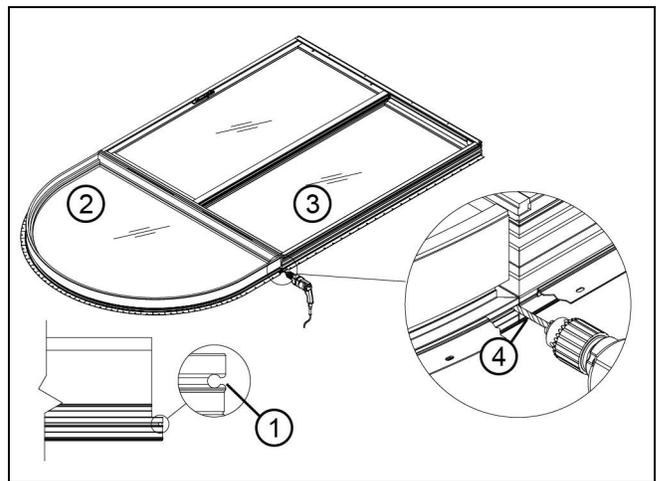

Figure 41
4. Position ELALDGRT on the head jamb of door. Check to be sure that both ends of the ELALDGRT sill are flush with door head jamb. Apply clamps to interior side at each end of head jamb and sill to prevent movement. Use scrap pieces of wood to prevent marring of wood surface. Make sure that nailing fin/drip cap kerfs line up on both ends. See Figure 41.
5. Drill the outer edges of mull kerf located at one side at head jamb of door and sill of transom with a 3/16" (5) drill bit as shown in illustration. This will allow easy application of mulling pin. Be sure to clean filings from the drilled area prior to mull pin installations.